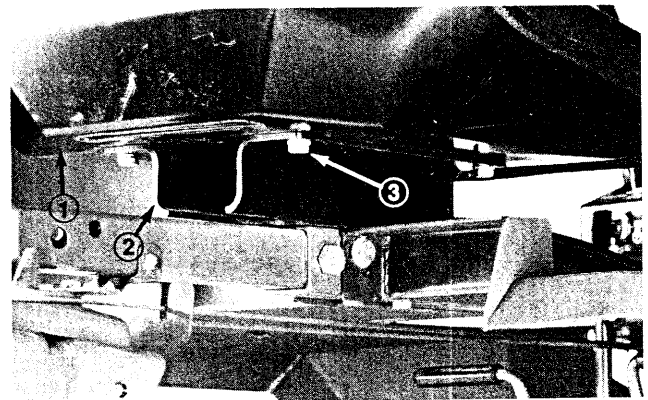

Figure 5
3. Position seat mounting holes over seat channel holes. Secure seat to channel with (4) 5/16-18 x 5/8" lg. capscrews and lockwashers (Fig. 5). Adjust seat to a comfortable operating position. Refer to Seat Adjustment, page 24.